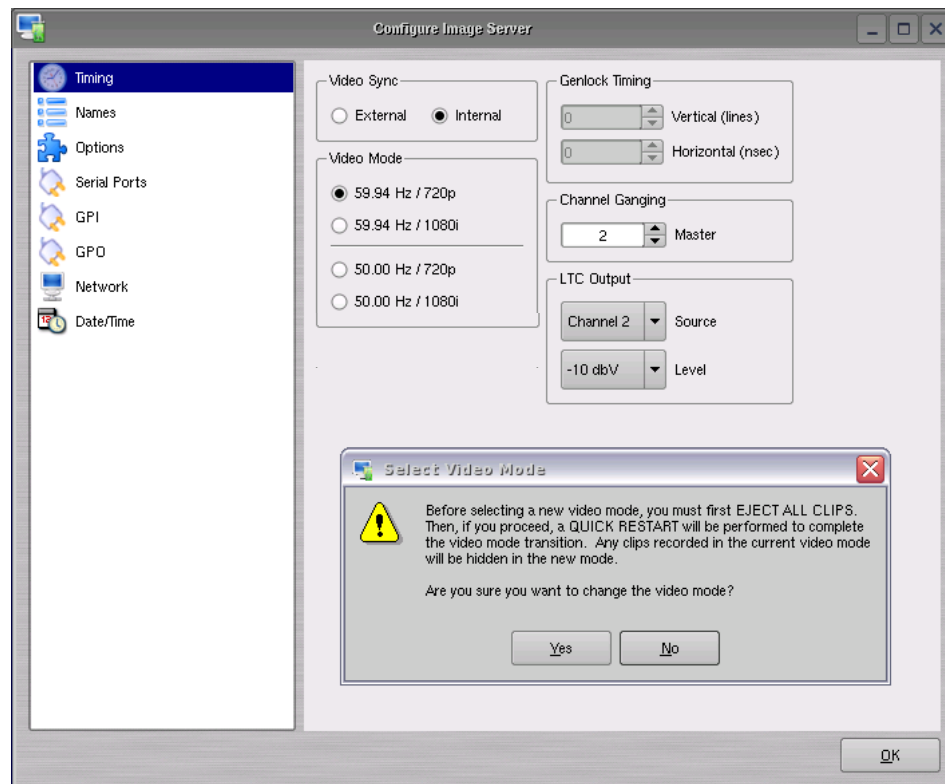

Figure 9 – Selecting Video Format
- A. From the main menu bar select **EDIT->CONFIGURE**. Select the **TIMING** option. The screen of **Figure 9** appears.